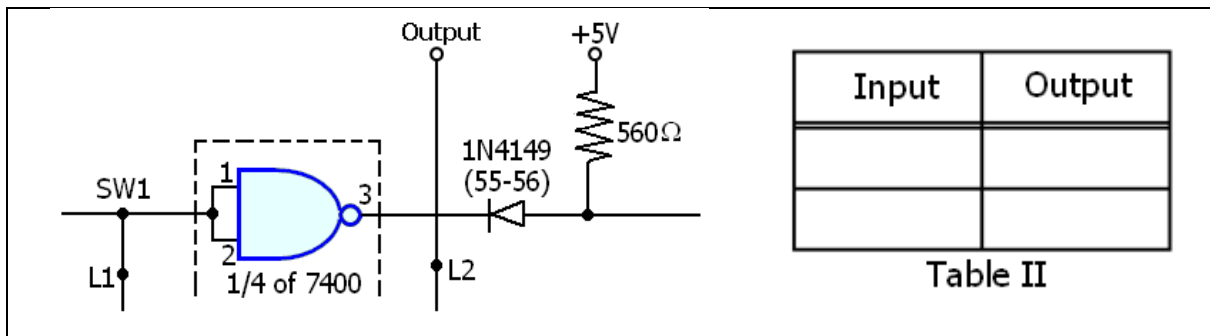

Fig. 1-3
6. Connect the diode-resistor circuit shown in Fig. 1-3 to the output of the TTL gate. This circuit simulates a load of about 7 TTL gate inputs. Again measure the input and output voltages of the circuit for both positions of SW1. Record your data in Table II.